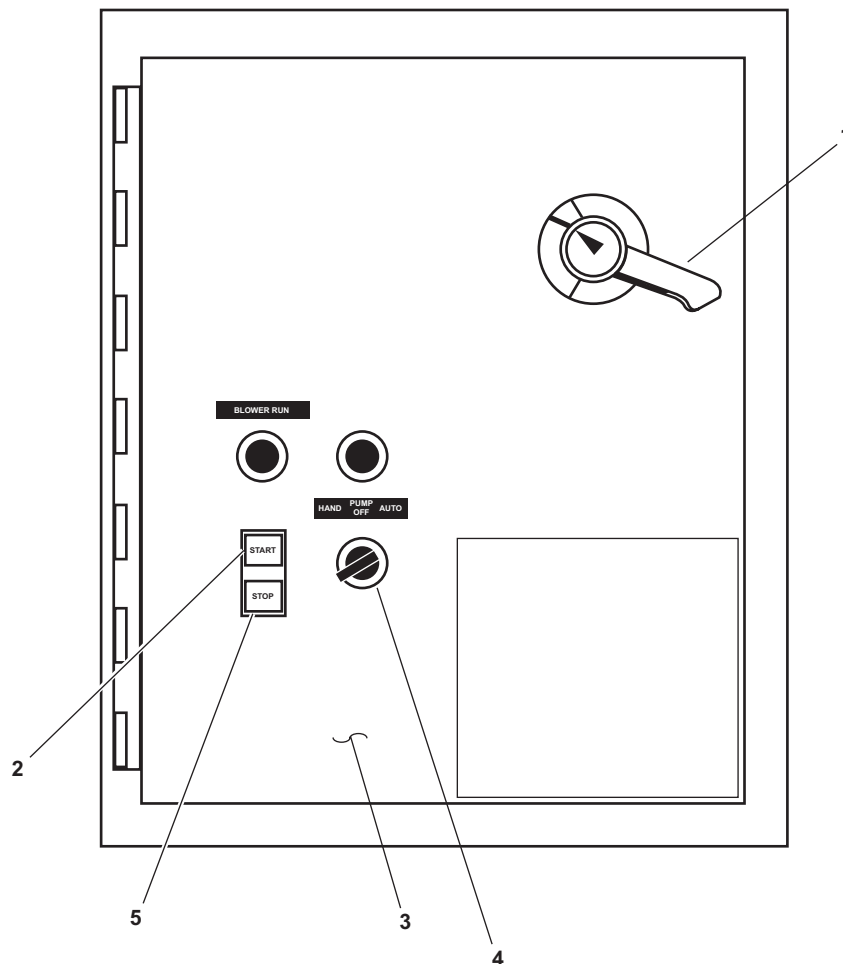

Figure 4. MSD Control Panel
7. Set to ON the MSD control panel master switch (figure 4, item 1).
8. Press the START button (figure 4, item 2) on the MSD control panel (figure 4, item 3) to start the blower (figure 3, item 38).
9. Set the PUMP HAND/OFF/AUTO switch (figure 4, item 4) on the MSD control panel (figure 4, item 3) to AUTO.